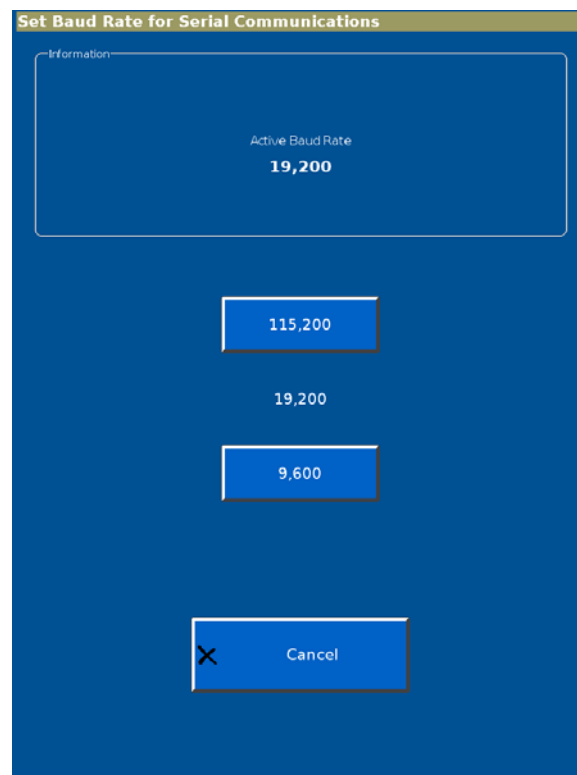

Figure 5-9: Set Baud Rate Screen
2. Touch the button to select the Baud rate (Figure 5-9).